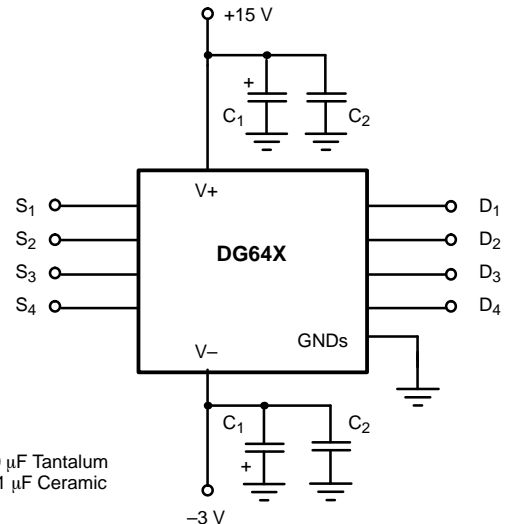

FIGURE 7. Supply Decoupling
1. Decoupling capacitors should be incorporated on all power supply pins (V+, V-). (See Figure 7).